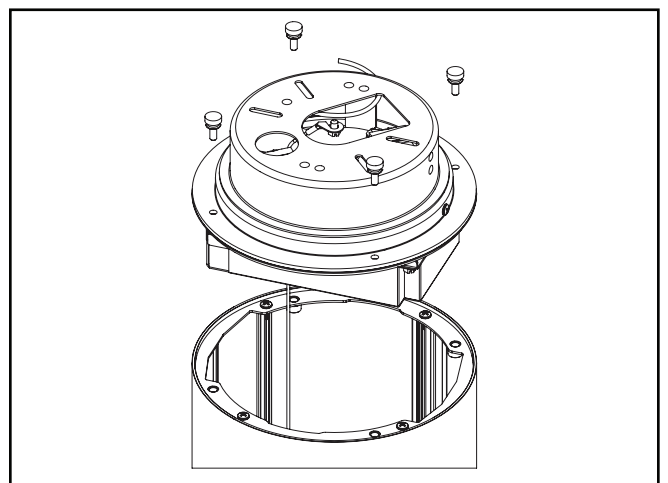

Figure 5.
1. Loosen and remove the 4 screws on top of cylinder. Remove the cylinder top to access the driver bracket assembly. (Figure 5.)